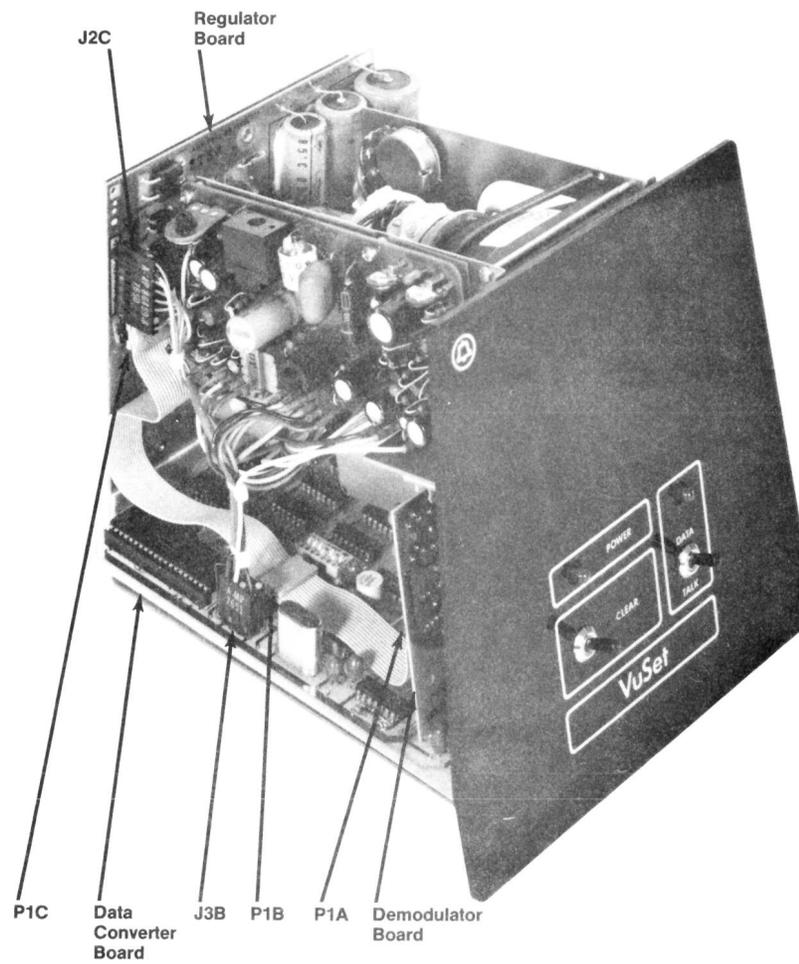

Figure 3, Left Side of Chassis
- d) Disconnect connectors J2C and P1C from the regulator board. (See Figure 3)
- e) Connect J2C and P1C to the regulator board. (See Figure 3)
- d) Disconnect P1B, J2B and J3B from the data converter board. (See Figures 3 and 5)
- b) Connect P1B, J2B and J3B to the data converter board. (See Figures 3 and 5)
- e) Disconnect P1A and J2A from the demodulator board. (See Figures 3 and 5)
- d) Connect P1A and J2A to the demodulator board. (See Figures 3 and 5) Reconnect spring retainers whenever completing an electrical reconnection.
- d) Disconnect J3B from the data converter board. (See Figure 3)